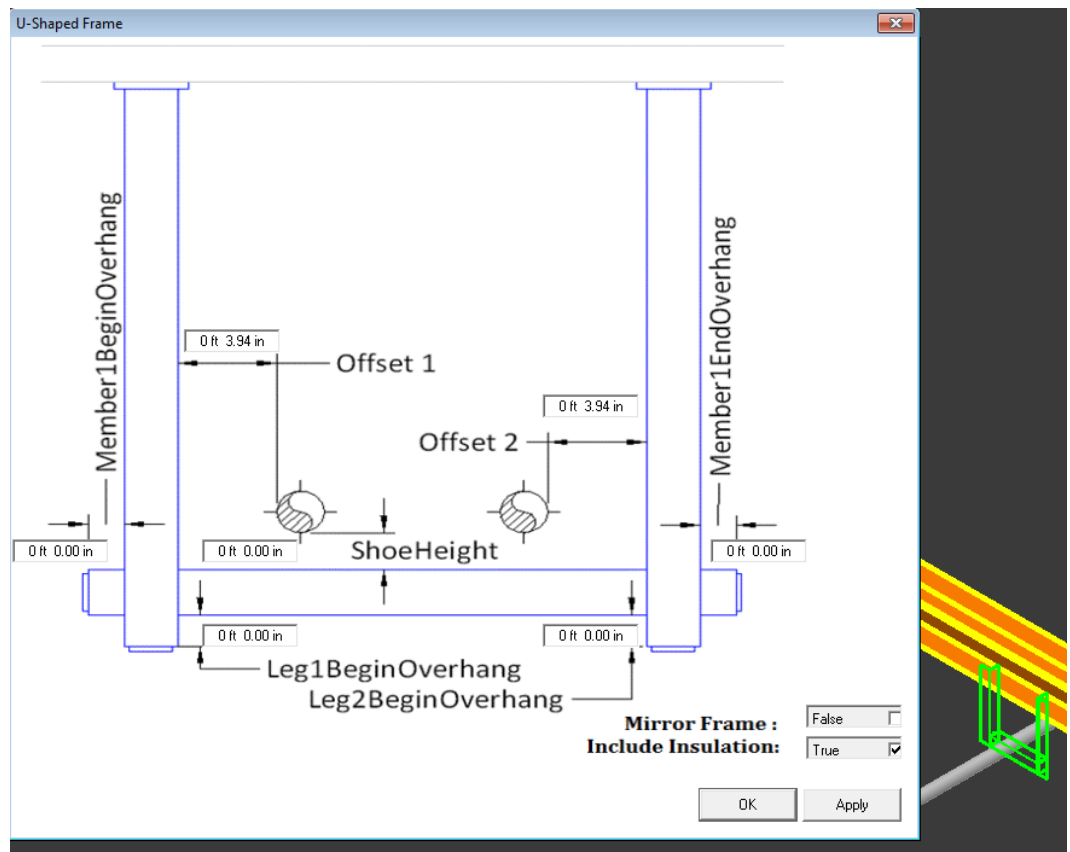

Figure 4: User Defined Forums for frame support.
- 3- After selecting the above shown support, a box will pop up showing the important occurrences of the selected support and allowing the user to alter them prior to placing the support. This box is what is called User Defined Forums for frame support as shown in Figure 4.
As it can be noticed from Figure 4 that the user defined forum include the important occurrences for the frame support and give the user an access to alter them. These occurrences are: